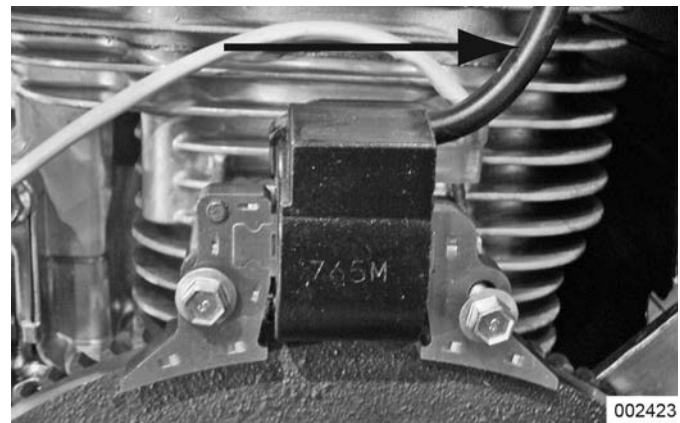

Figure 4-42. Cylinder One (Back, Short)
- 3. See **Figure 4-42**. Cylinder one is the back cylinder.